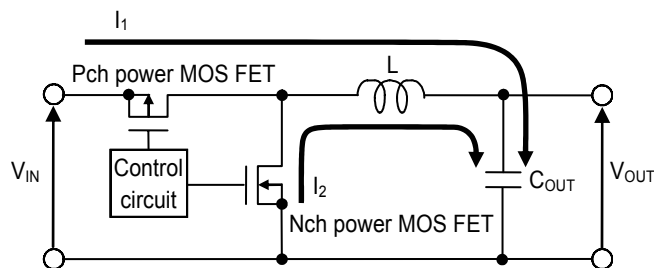
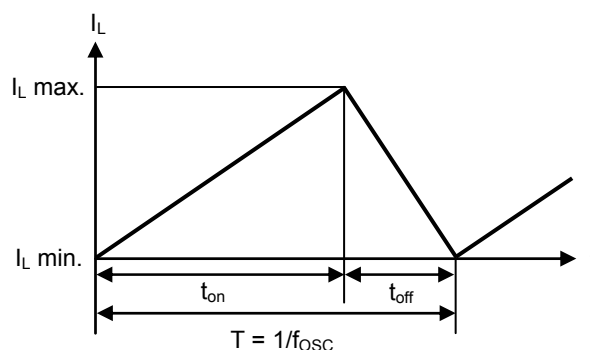

Figure 9 Basic Circuit Drawing of Step-down Switching Regulator
Figure 10 Continuous Mode (Current Cycle of Inductor Current (I_L))
The S-8550/8551 Series is a step-down synchronous rectification switching regulator based on constant PWM control. **Figure 9** shows the basic circuit diagram.
When the Pch power MOS FET is turned on, current I_1 flows in the direction shown by the arrow in **Figure 9**, and energy is stored in the inductor (L). When the output capacitor (C_{OUT}) is charged, supply of the output current (I_{OUT}) is started at the same time. The inductor current (I_L) gradually increases in proportion to the ON time (t_{ON}) of the Pch power MOS FET as shown in **Figure 10** (changes from I_L min. to I_L max.). When the Pch power MOS FET is turned off, the Nch power MOS FET is turned on and I_L tries to hold I_L max. Consequently, current I_2 flows in the direction shown by the arrow in **Figure 9**. As a result, I_L gradually decreases and reaches I_L min. when the OFF time (t_{OFF}) has elapsed. When t_{OFF} has elapsed, the Nch power MOS FET is turned off and the next cycle is entered. The above sequence is repeated.